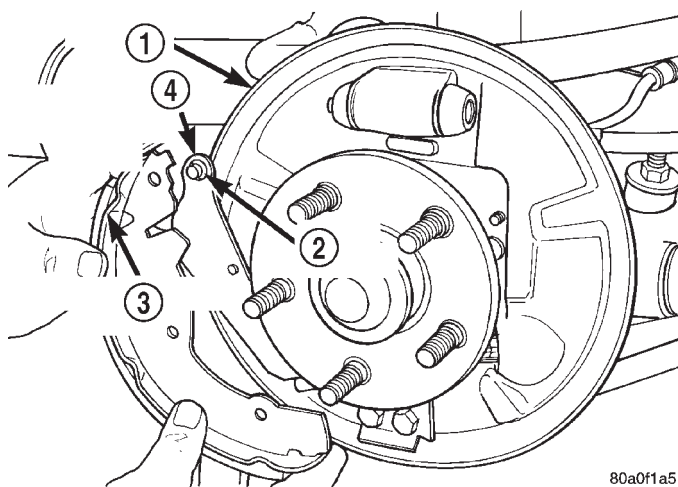

Fig. 110 Remove /Install Trailing Brake Shoe
(12) Remove the trailing brake shoe from the brake support plate and the park brake actuating lever (Fig. 110).
(3) Install the trailing brake shoe on the park brake actuating lever (Fig. 110)